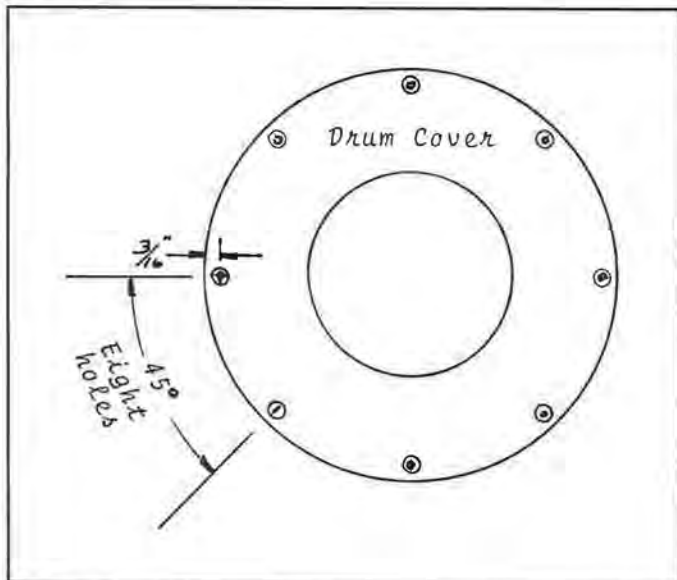

Figure 4.
*Step 9.* Align the index marks on the drum and drum cover. Mark, and drill eight holes with a #44 drill, 45° apart around the top outer edge of the drum cover to match the holes in the drum. (See Figure 4.) Countersink these holes to fit a 2-56 flathead screw.